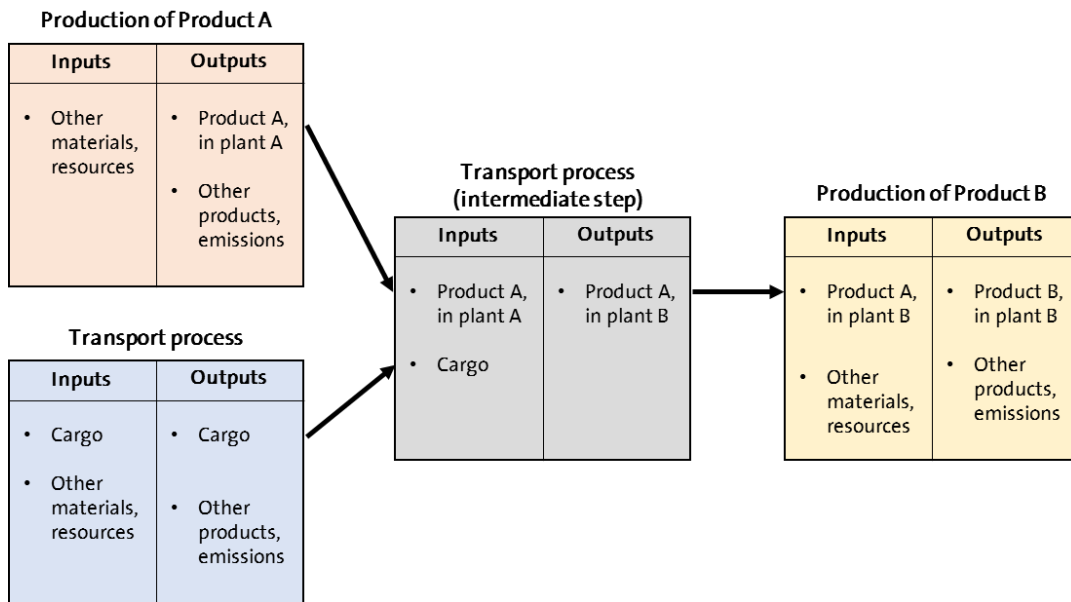

Figure 9. Option 1 suggested for transport modelling using GaBi databases in openLCA.
- Option 1: Creation of an auxiliary process for connecting the transport phase, the product to be transported and the transported product consumed by the next phase (Figure 9).